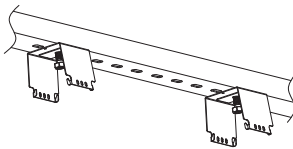

Figure5
- Step1. Mount the bracket on the rail or ceiling (Figure 5)